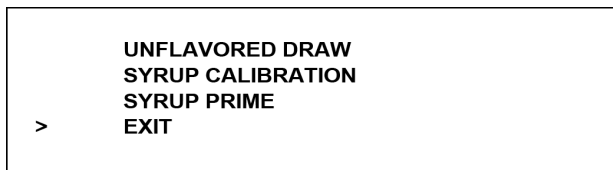

Figure-48
7. Press the Calibrate symbol  to display the menu options. The Calibrate symbol , the Auto symbol  on the shake side, and the optional Flavor symbol  will be illuminated. The screen will display the Calibration Menu options. (See Figure-48.)